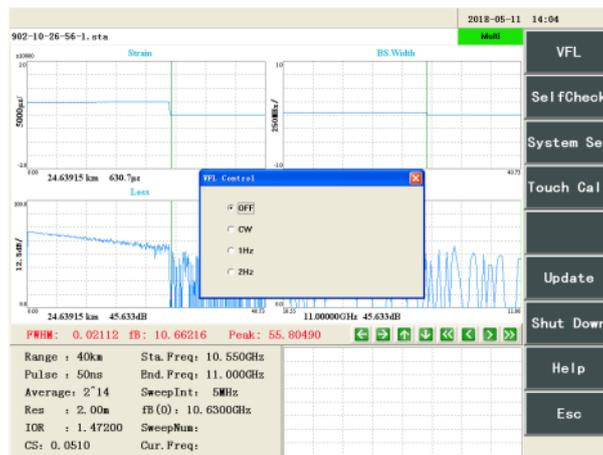

Figure 8-19 Control window of VFL
Step 2: Select the [VFL] function button in the system sub-menu (or click the VFL button on the front panel) and the software will pop out the VFL control window. As shown in Figure 8-19, there are four options: [OFF], [CW], [1Hz], and [2Hz]. The mouse or touch screen adjusts the working state of the VFL.